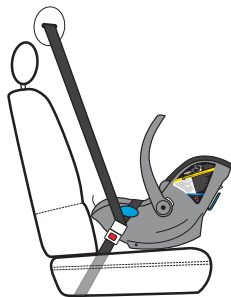

Figure 79
If you are still unable to shift Carrier so that blue Reference Line is parallel to the ground, remove the vehicle shoulder belt from around the back of the Carrier and let it retract into a position against the front of the vehicle seat back as shown in **Figure 79** and shift the Carrier so that the blue Reference Line is parallel to the ground, or move to another seating position.
- DO NOT wrap shoulder belt around back of Carrier. Let the shoulder belt retract into a position against the front of the vehicle seat back as shown in **Figure 79**.